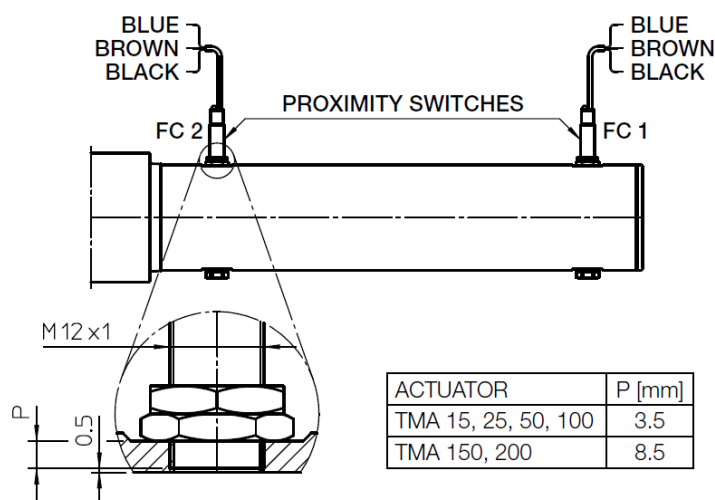

Figure 6.1 – Proximity stroke limit switches FCP
- In case it is necessary to restore the correct sensing distance position, please refer to Fig. 6.1.